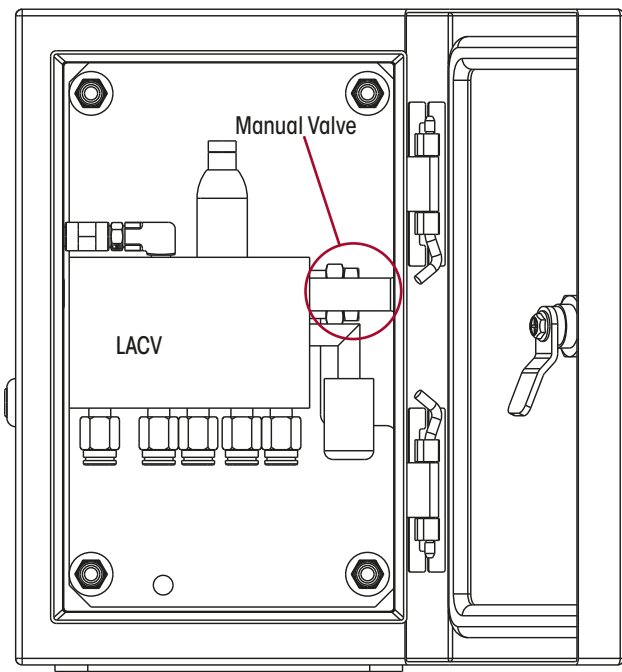

Figure 1: Manual/Auto Lift Axle Control Valve
- Manual/Auto:** These systems rely on the driver to raise the lift axle when no longer needed. The axle will drop automatically when axle load reaches the set mass. The manual valve is integrated into the LACV. Refer Figure 1.